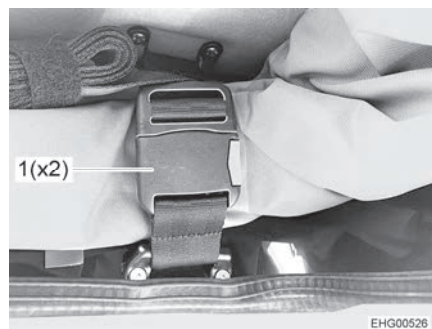

Fig. 57 Belt lock
- Open both belt locks (Fig. 57,1).